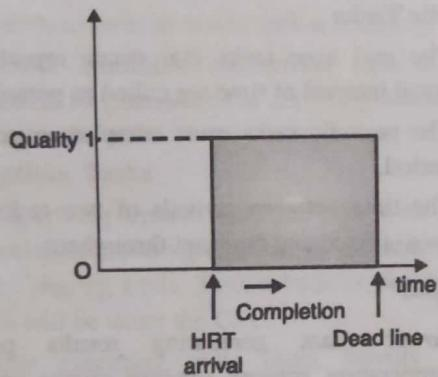

Fig. 1.2.1 : Hard Real Time tasks Execution
- As shown in the Fig. 1.2.1, the outcome of the HRT task is significant if and only if the deadline is followed or else (after the deadline) result is zero even if the output is achieved.